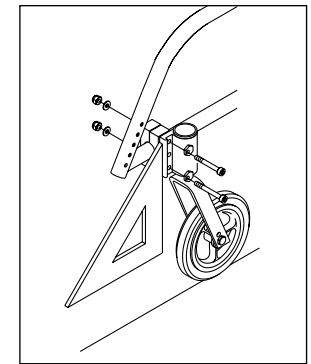

Figure 28
1. Caster Angle Adjustment (Fig. 28)